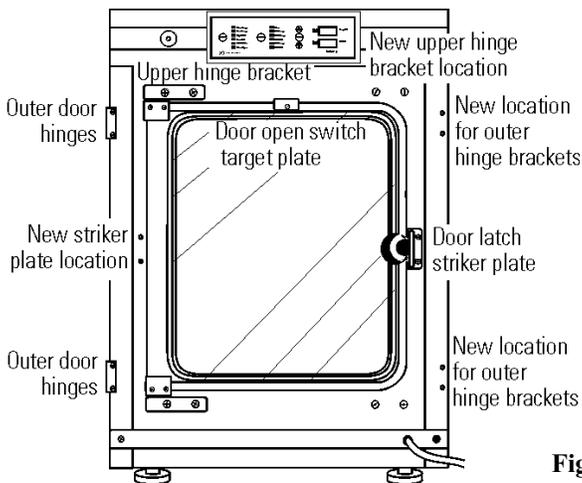

Figure 4-5
- Refer to Figure 4-5 for the next steps. Remove the nylon screws along the right side of the cabinet. Remove the outer door hinges. Rotate them 180° and install them on the right side of the cabinet. Install the nylon screws in the holes vacated by the hinges.
- Screw the threaded plugs into the holes vacated by the door hinge brackets where indicated in Figure 4-5.